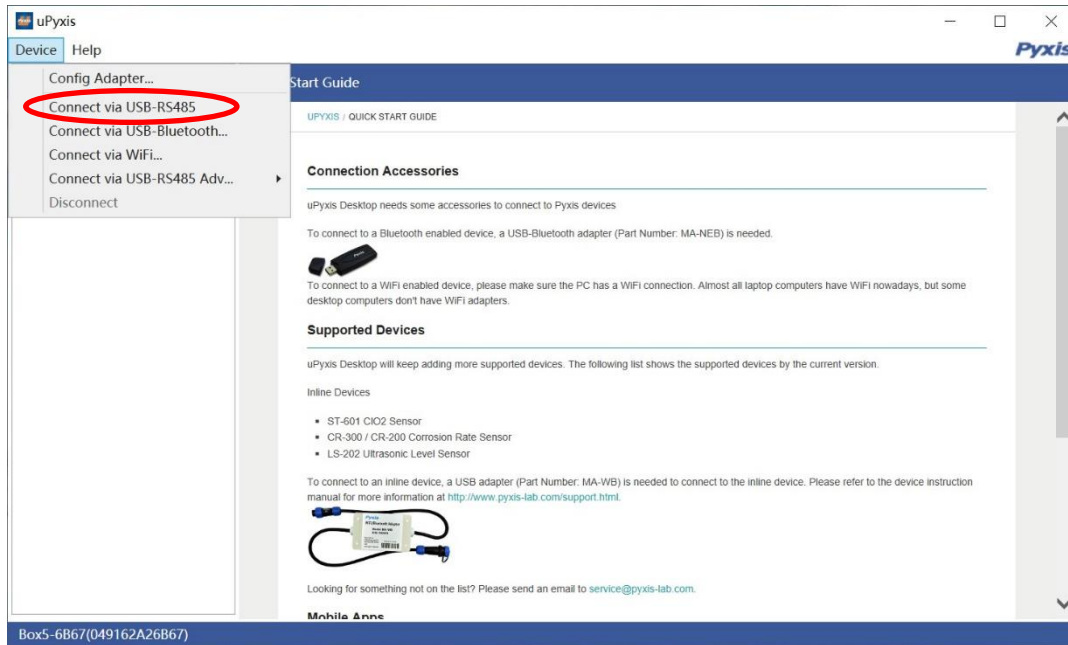

Figure 11 - Connection Options
- 6) Select Connect via USB-RS485 (*Figure 11*).